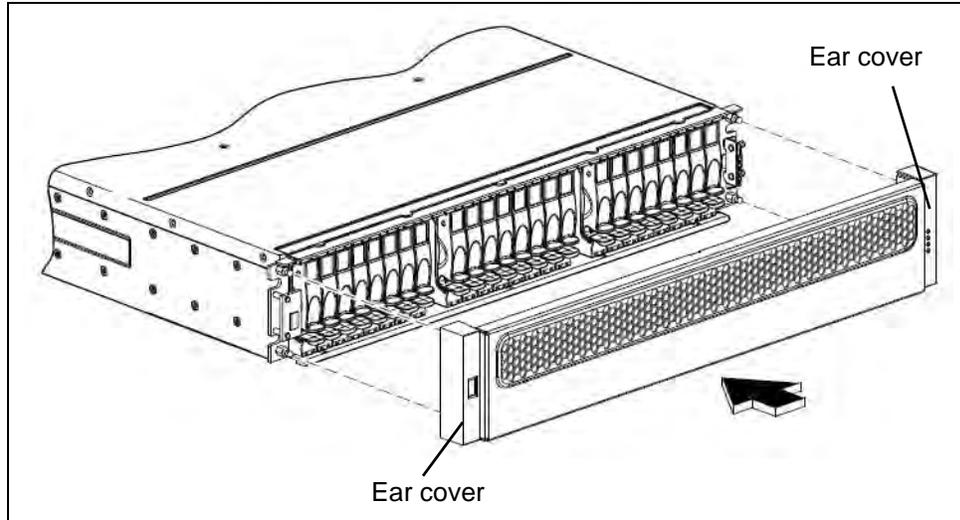

Figure 5.39 - Bezel Assembly Installation
3. Align the bezel assembly with the front of the enclosure so the integrated ear covers slide onto the push-fit ball studs, while taking care to guide the LED indicators through ear-cover openings (Figure 5.39).